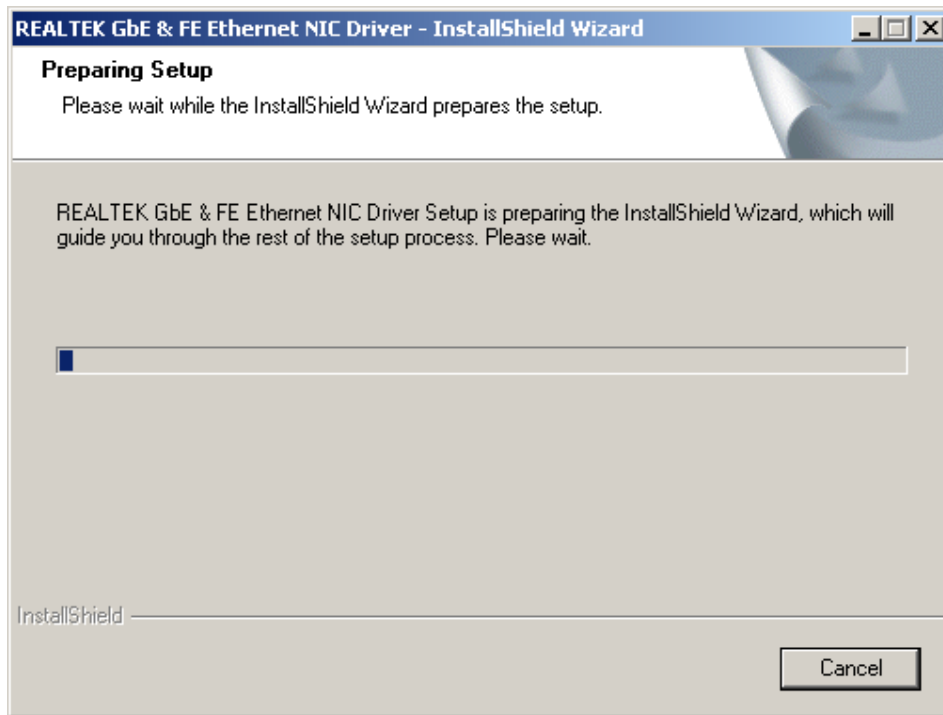

Figure 6-7: Realtek LAN Driver InstallShield Wizard
- Step 1:** Insert the Utility CD that came with the motherboard into the system CD drive. Open the **X:\3-LAN\Realtek** directory (where **X:** is the system CD drive) and double-click the **setup.exe** installation file to initiate the **InstallShield Wizard** (Figure 6-7).